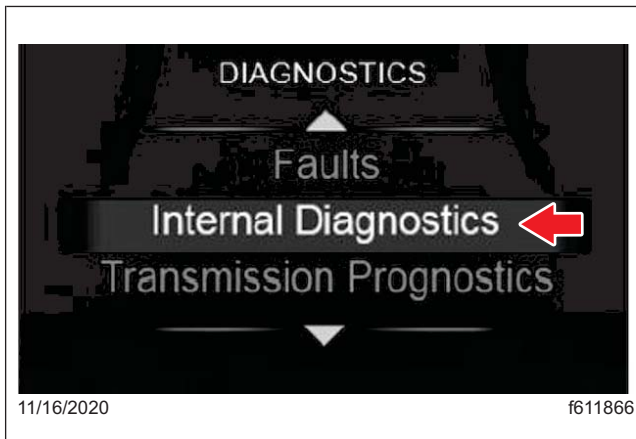

Fig. 16, Selecting Internal Diagnostics
8. Verify that all of the options are correct. From the main menu, scroll down to Diagnostics and press OK, then scroll down and highlight Internal Diagnostics and press OK again. See Fig. 16.